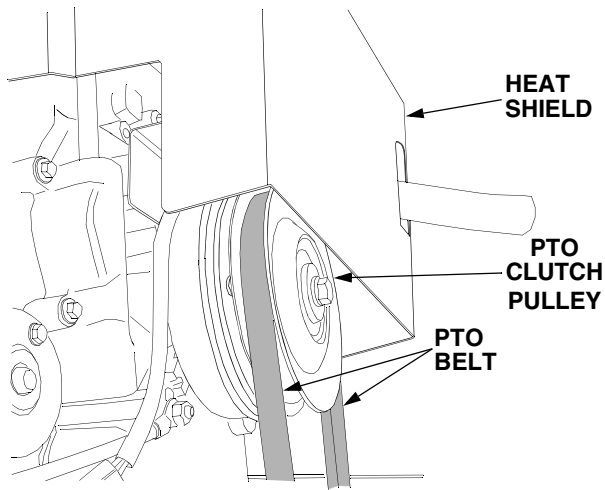

Figure 34
11. Maneuver the loop of the belt up between the front of the PTO pulley and the heat shield and place the belt into the groove of the pulley. See Figure 34.